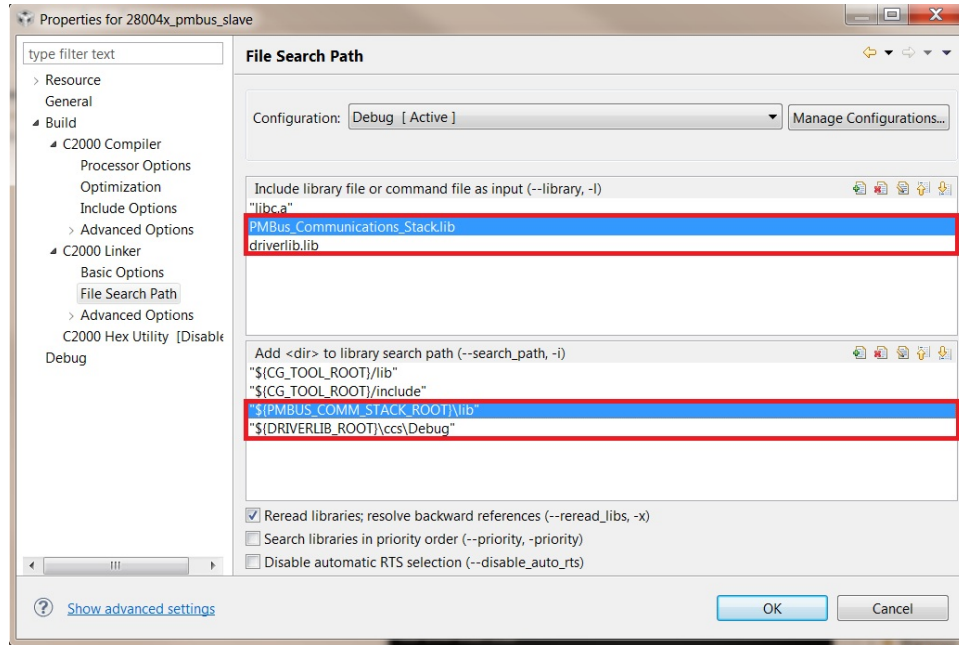

Figure 4.4: Adding the library and location to the file search path
2. Add the Communications Stack library, 'PMBus_Communications_Stack.lib', and its location to the File Search Path as shown in Fig. 4.4. Also add the device driver library.